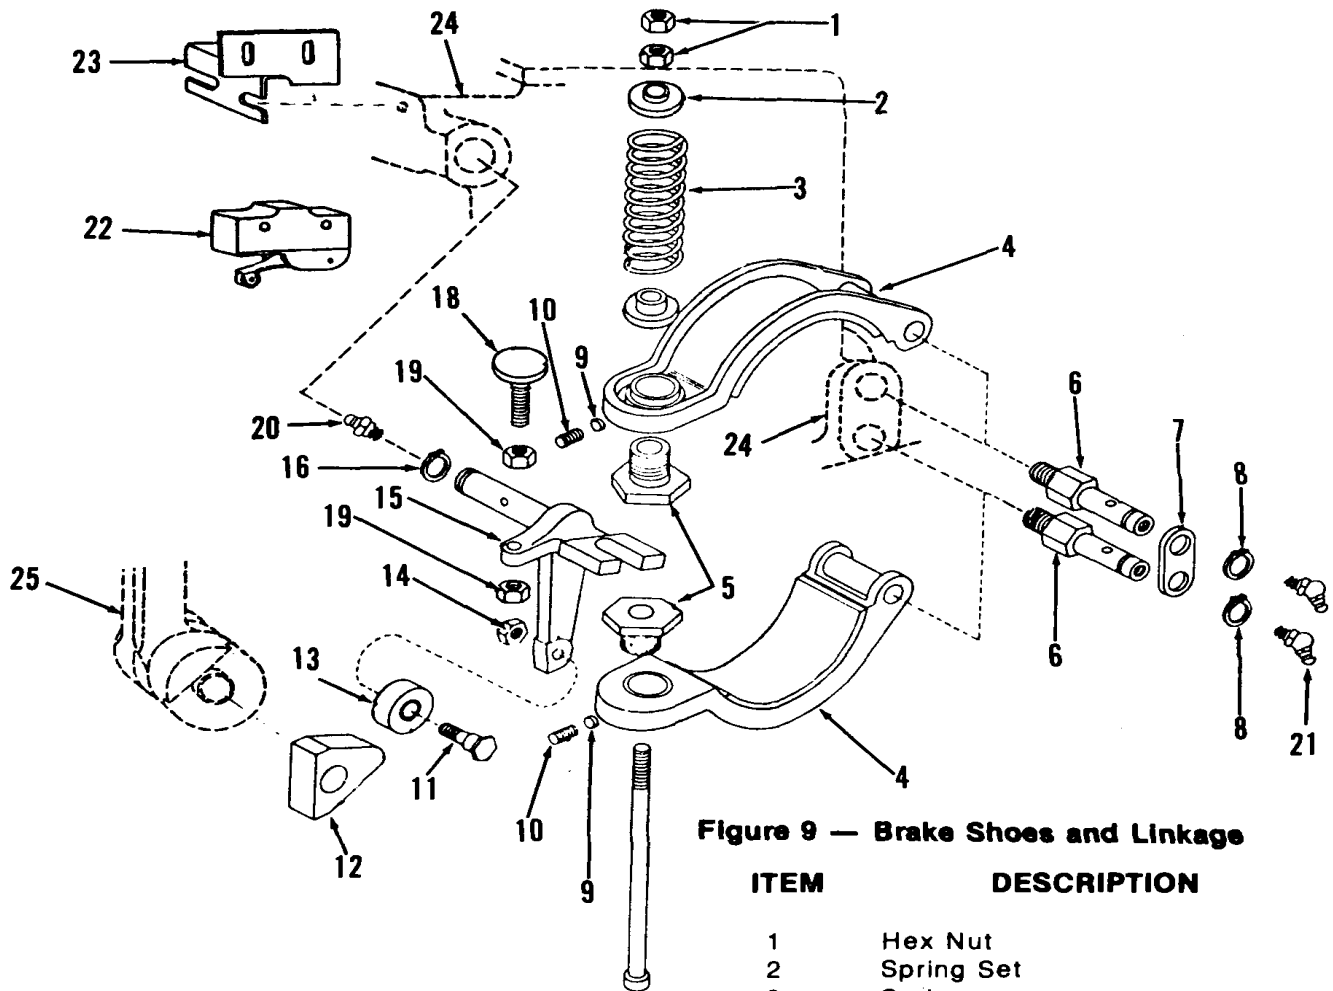

Figure 9 — Brake Shoes and Linkage
- a. Refer to fig 9 for location of parts
- b. Install brake release arm (15) and retaining ring (16)
- c. Install adjusting screws (5) if they were removed. Install set screws (10) but do not tighten till brakes are adjusted
- d. Install brake shoes (4)
- e. Install spring (3), spring seats (2), rod (17) and nuts (1).
- f. Install link (7) on pivot pins (6) and install retaining rings (8)
- b. To adjust brake, the control handle must be in its vertical position. Back off approximately two full turns on the two set screws (10) located on the front of the brake shoes. Turn the two brake cam adjusting screws (5) either to or away from the brake release arm to a clearance of 1/64" to 1/32". Retighten the two set screws (10).
- d. Place handle in vertical position (up against drive unit). Brake is in on position and power cut off switch should be open. Slowly pull handle down until switch clicks (makes contact). Brake should release just before this click is heard. Adjust switch actuator (fig. 9 Item 18) when necessary. Return handle to vertical position. Power cut-off switch button must not bottom. Button should have 1/16" to 1/8" additional travel with brake on. Check by placing a gauge under button with brake applied.